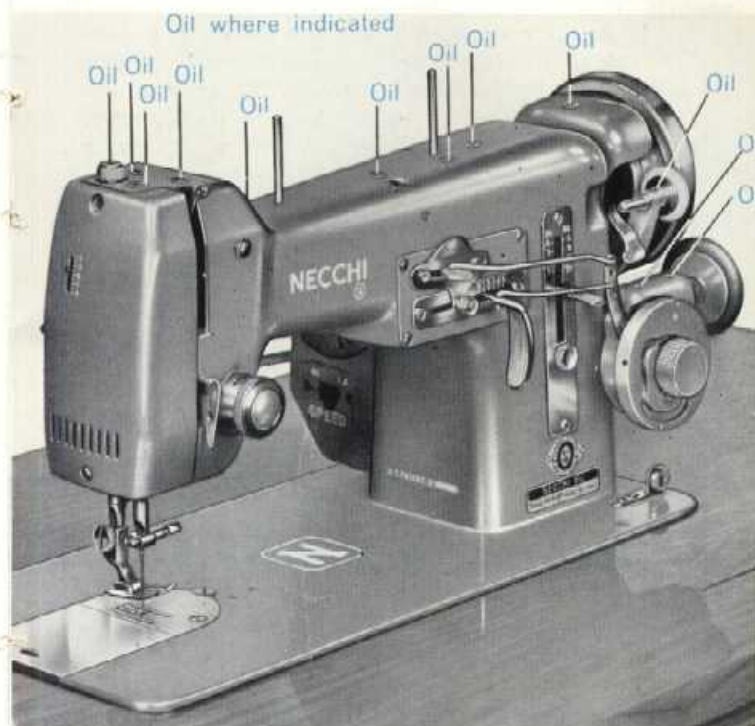

Fig. 3
- The pointers in Fig. 3 indicate the small oil holes into which one drop of oil should be put whenever the machine is used.
- Remove screw at upper portion of face plate (see Fig. 2), remove face plate, and put one drop of oil into each of the oil holes and joints (see fig. 3 a). Replace face plate and screw and tighten it firmly.
Fig. 3 a